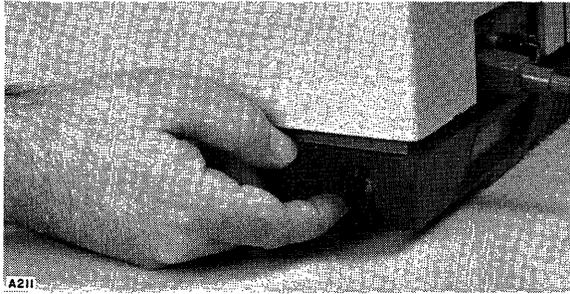

Figure 2-1. Location of the Power On/Off Switch
- a. The power on/off switch is located on the right side panel, as shown in figure 2-1.